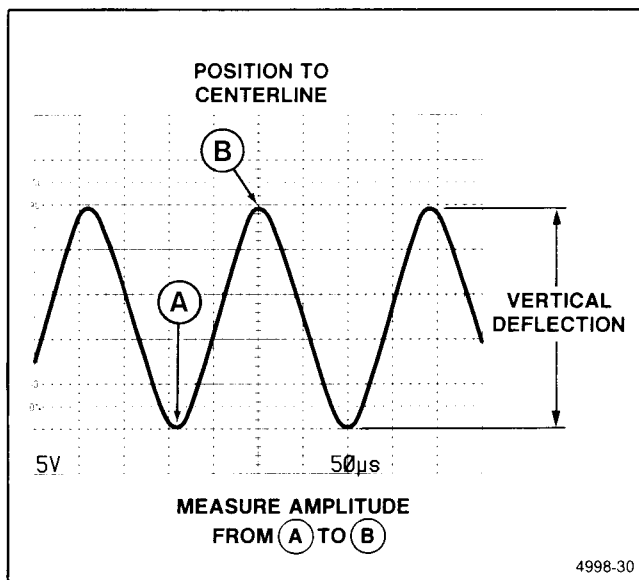

Figure 6-17. Peak-to-peak waveform voltage.
8. Measure the vertical deflection from peak to peak (see Figure 6-17, Point A to Point B).
EXAMPLE: The measured peak-to-peak vertical deflection is 5 divisions (see Figure 6-17) with a VOLTS/DIV switch setting of 0.5 V, using a 10X probe.
6. Vertically position the displayed waveform so that the negative peak of the waveform coincides with one of the horizontal graticule lines (see Figure 6-17, Point A).
7. Horizontally position the display so that one of the positive peaks coincides with the center vertical graticule line (see Figure 6-17, Point B).